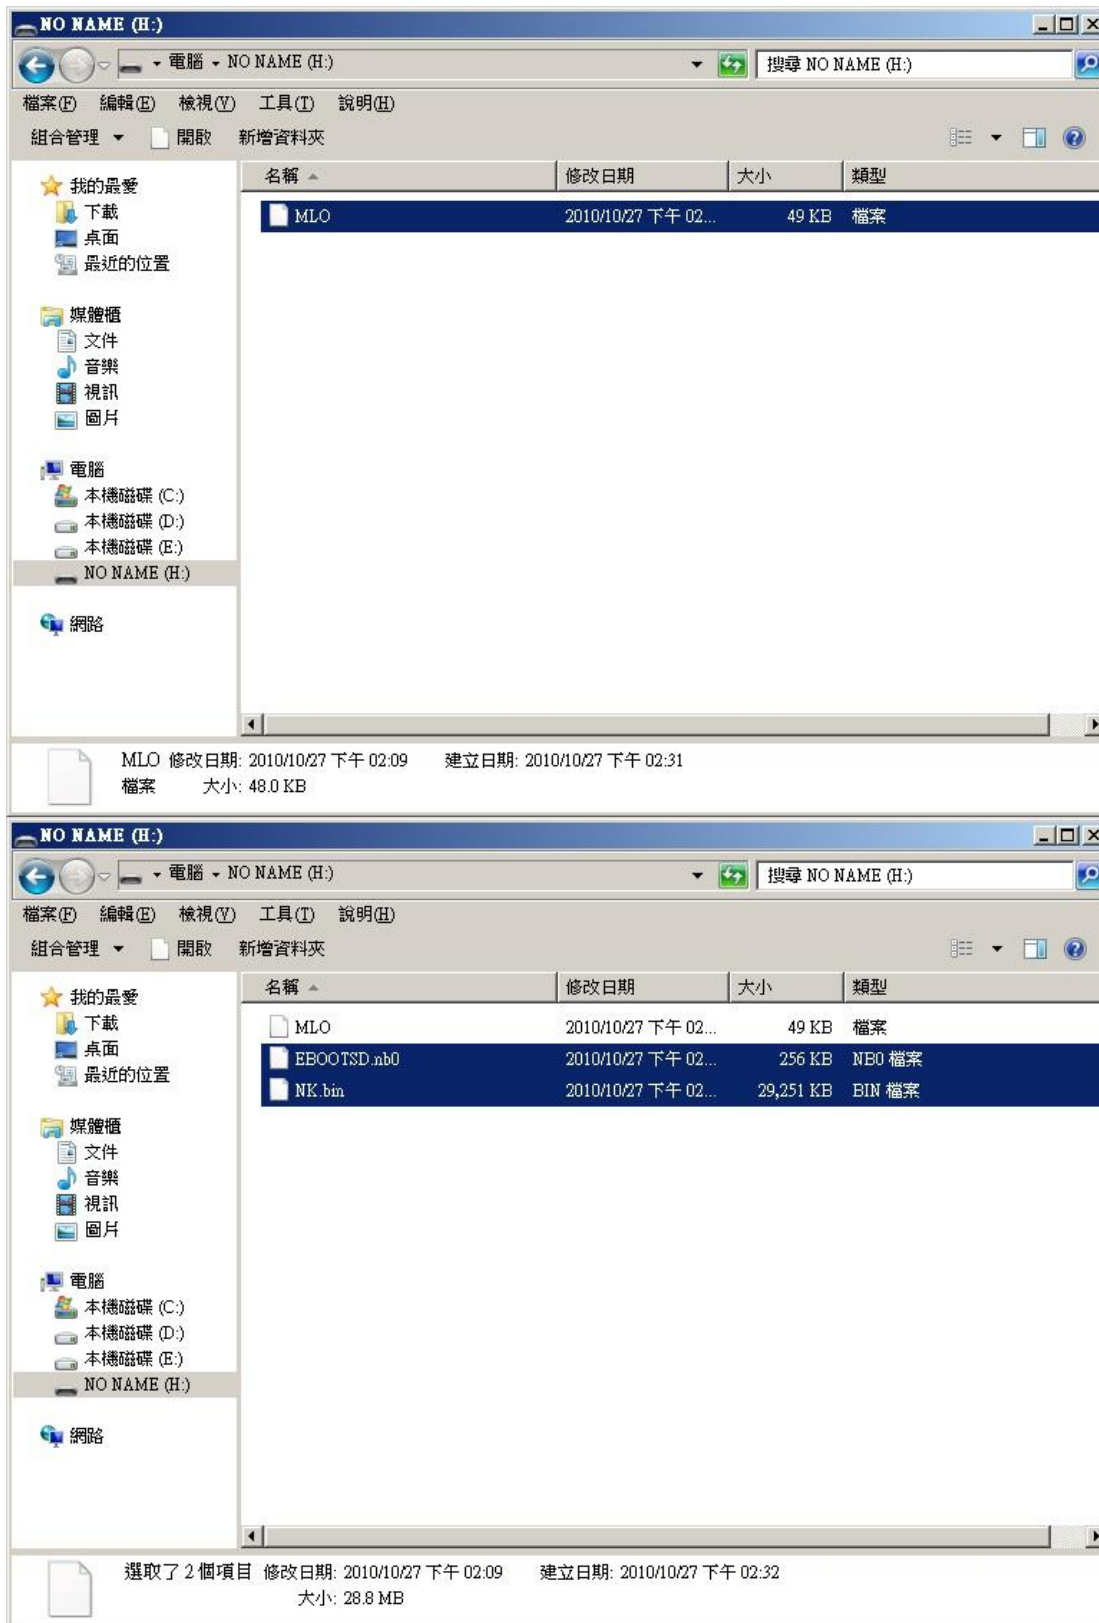

Figure 127
- Then copy “EBOOTSD.nb0” and “NK.bin” in the microSD card (See Figure 127)